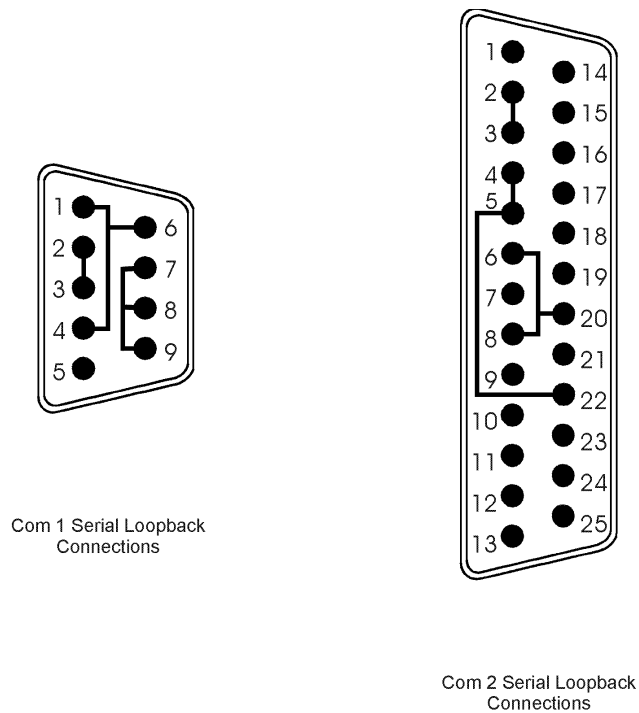

Figure 2-1. Serial Loopback Connections
3. Connect the serial loopback connector(s) and the printer cable to the appropriate connectors and connect a PC/AT or PS/2 keyboard. Figure 2-1 illustrates the wiring necessary for the loopback connection.